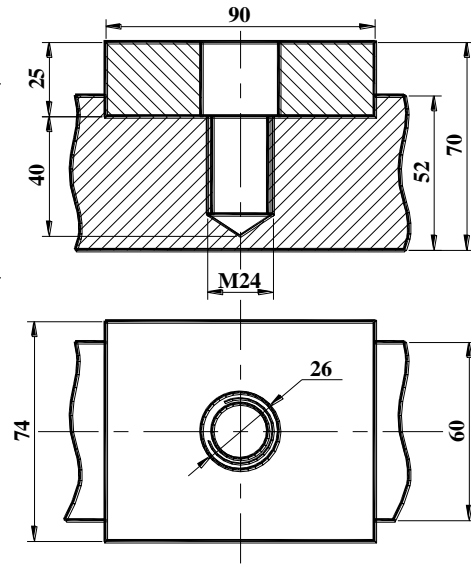

FIGURE T6.3
3. DRAW A STUD JOINT TO CONVENTIONAL RATIOS FOR THE PIECES SHOWN IN FIGURE T6.3.